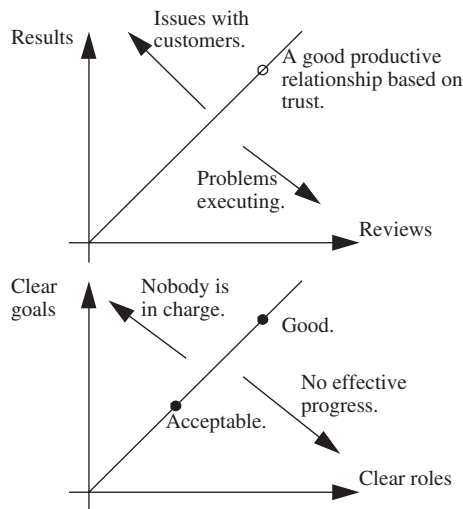

FIGURE 4.15
Trust is also an issue when dealing with customers, as shown in Figure 4.15. Throughout the life of a design project the customer will be watching activities and outcomes to see if they match his or her expectations. Even if the results are not exactly as expected but they are consistent, there is the groundwork for trust. If the customer can see how the results satisfy his or her needs then he or she will be able to understand the outcomes, building trust. If the results do not match, most customers will not try to understand the differences and trust is never built. This means that if you want customers to trust you must (1) understand what they need, (2) give them what they need, and (3) when you can't, explain why it does not match their needs.